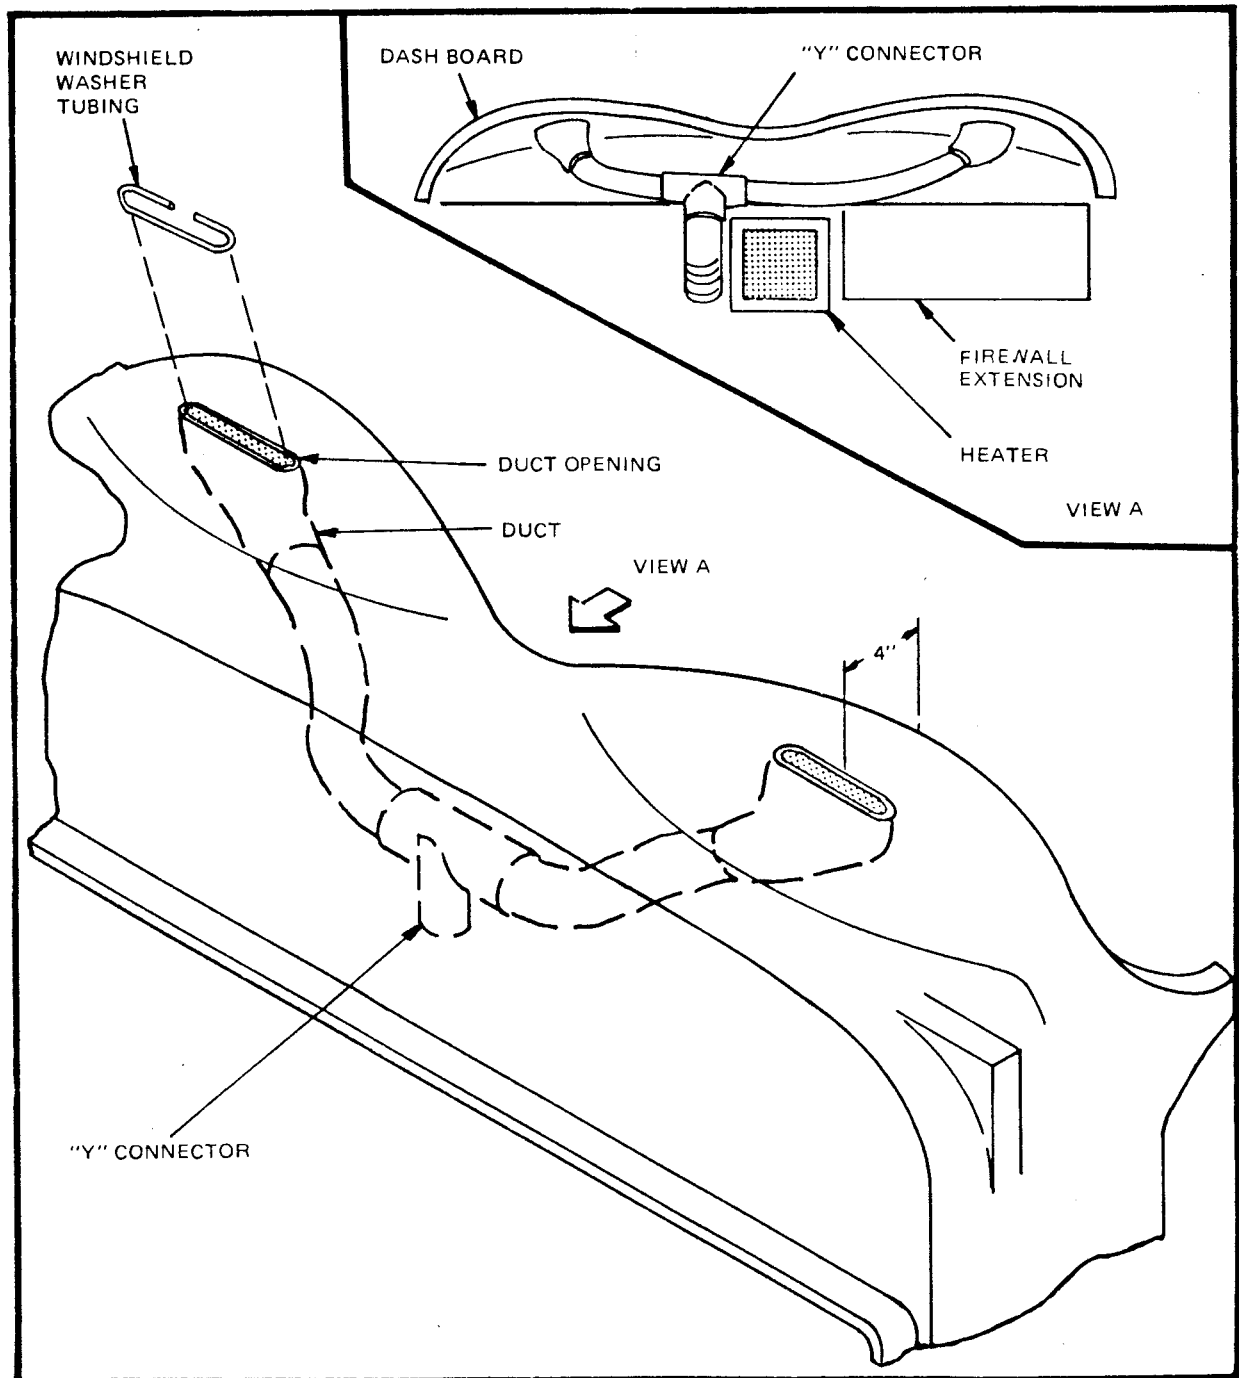

Figure 38
- Run hoses from ducts to opening on heater, using the "Y" connector. Glue holes in place. (Figure 38)